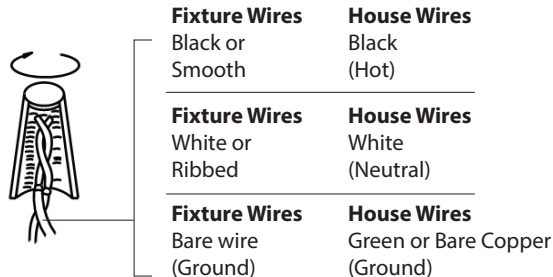

Fig.3 Driver Wiring
8. Connect the driver output wire with fixture wire as shown in (Fig. 3) red to the red, and black to the black. make sure connectors (B) are secured.